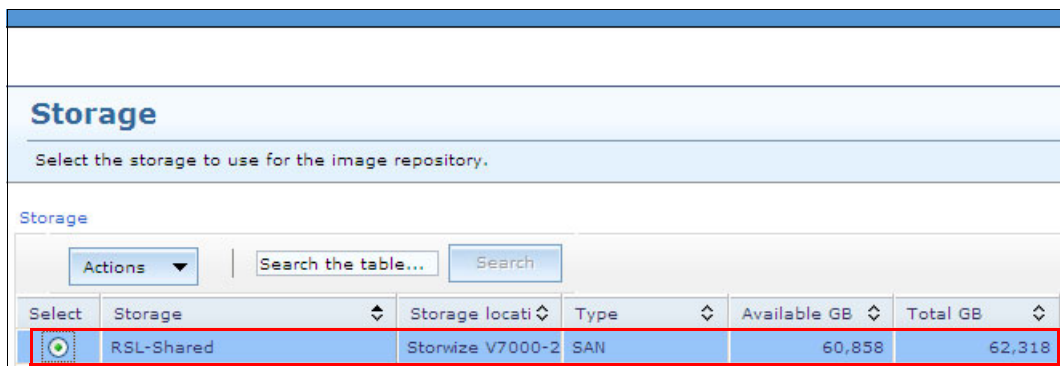

Figure 10-97 Selecting a target storage
4. Select a target storage pool as shown in Figure 10-97. Whenever you create a virtual server, FSM creates a LUN in the storage pool and allocates it to VIOS.